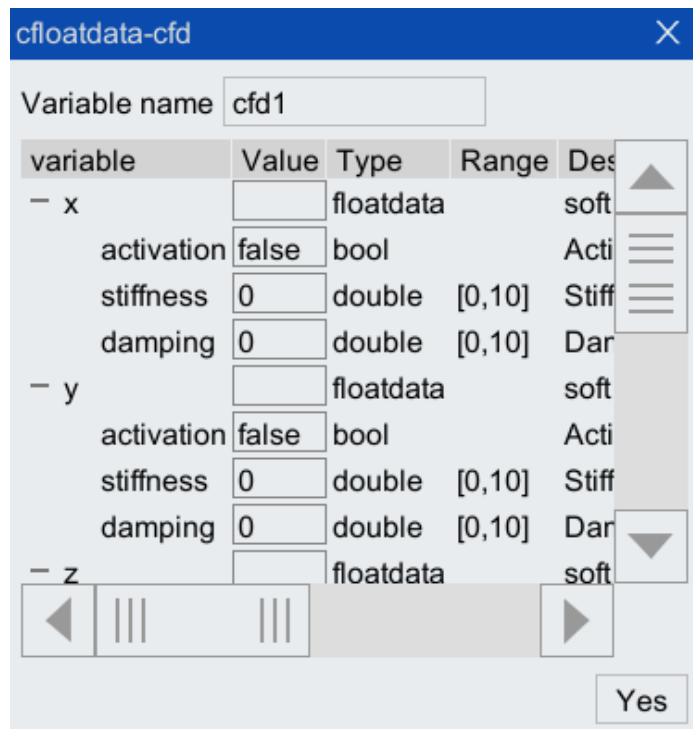

Figure 5-3 Parameter configuration interface
Step3. Click the "☰" after the [cfd] parameter, and the configuration interface shown in Figure 5-3 will pop up. Configure the parameters. The parameter descriptions are shown in Table 5-3.